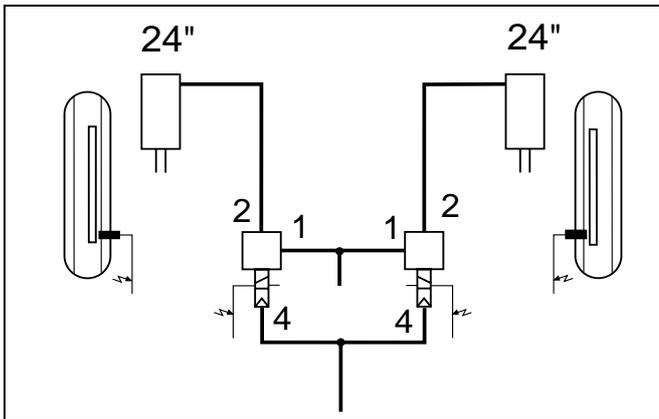

Fig. 5 Pilot and supply lines leading towards the valves should be divided as symmetrically as possible.
- The position of the ABS relay valves in the vehicle and their pipe connections to the left and right side of the vehicle must be designed as symmetrical as possible to the vehicle's longitudinal axis (Fig. 5).